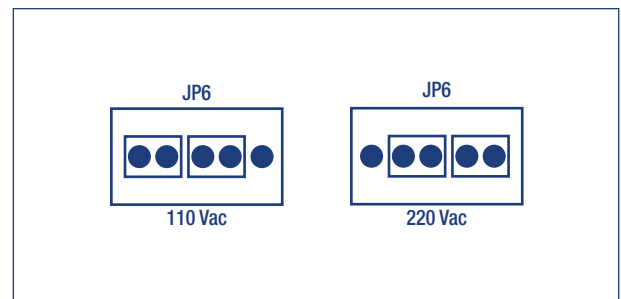

Figure 3 JP6 on Main Board
- 4 Set JP6 for the desired voltage. See Figure 3.
J1 1 2 3	Accepts Power from Either a 110 or 220 Vac Source. Jumper JP6 on the Main Board Must be Adjusted to Switch Between 110 and 220 Vac. See Figure 3. <ul style="list-style-type: none">AC Line Connection (No Connection for DC Operation)AC Neutral Connection (No Connection for DC Operation)Earth Ground